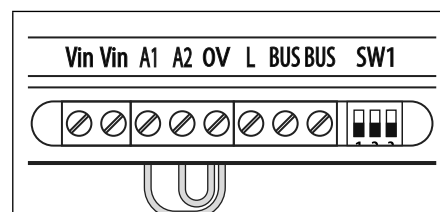

Fig. 42
2. Short out the auxiliary terminals **A1** and **A2** to the **0V** terminal with a piece of link wire, see **Fig.42**.